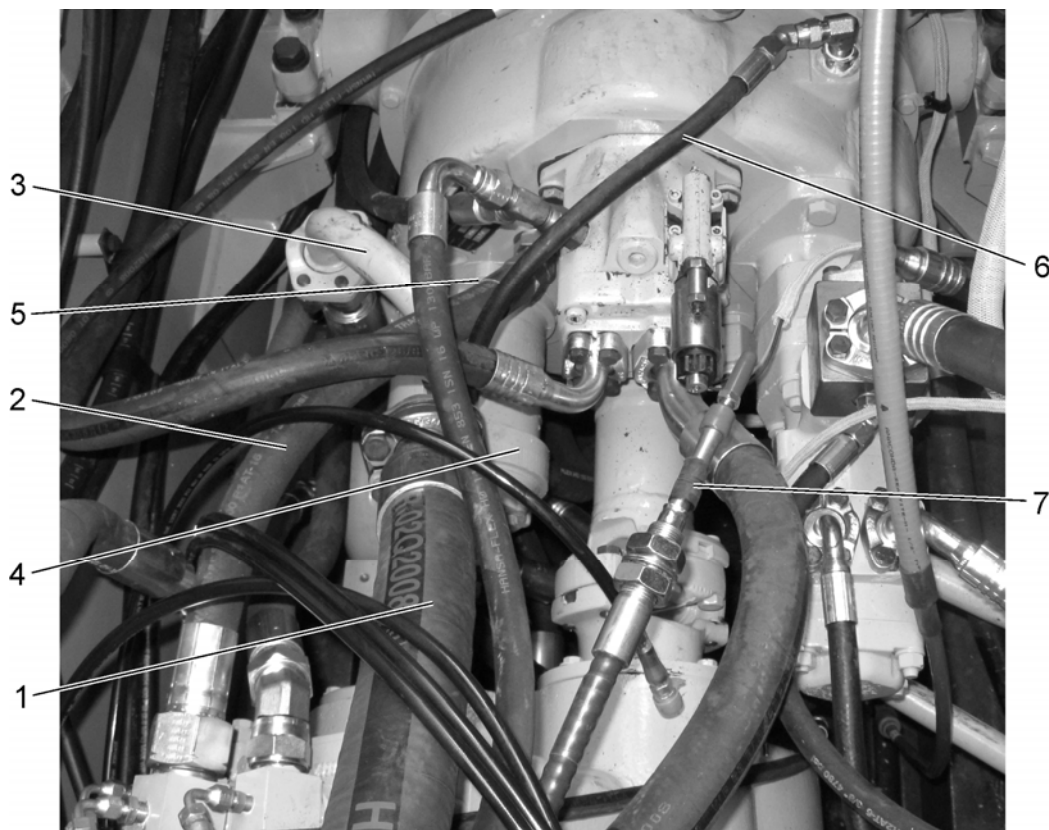

Fig. 7C.23. Charge and Scavenge Pump Disconnect Points (Top View)
4. Disconnect brake control cable (7, Fig. 7C.23).
5. Disconnect breather hose (6) and supply hose (2) from the torque converter.
6. Disconnect tube (3) and hose (1) from the top of charge and scavenge pump (4).